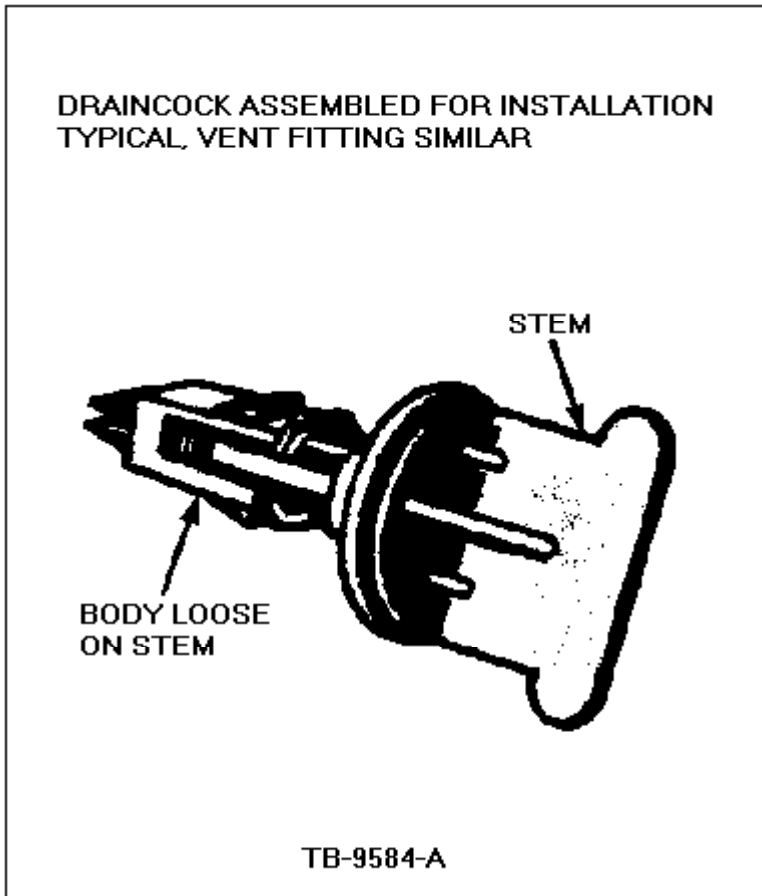

Figure 15 - Article 90-5-16
1. Check the draincock or vent fitting to make sure the body is installed loosely on the stem, Figure 15. If the stem is screwed into the body, the assembly cannot be installed into the tank opening.